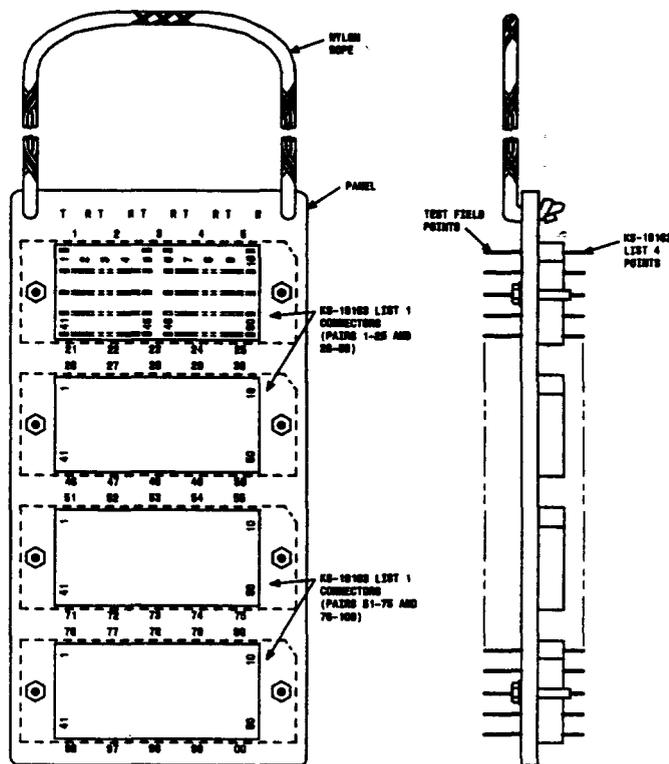

Figure 2—Pick Test Panel—Used With T and U Test Connectors and 299A and 299B Test Adapters—For 307-, 309-, 310-, 310M-, or 311-Type Connectors
2.03 The pick test panel assembly (Figure 2) is furnished with the T and U test connectors and the 299A and 299B test adapters to access the 100-pair field of the test connectors and adapters for single or pair-at-a-time testing. The four KS-19162, L4 connectors on the test connectors or adapters are attached to the pick test panel, tone is applied, and a B test point tester is used to identify individual pairs. The T test connector is used with the 310-, 310M-, and 311-type connectors. The U test connector is used with the 309-type connector, and the 299A and 299B test adapters are used with the 307-type connector. The pick test panel assembly is packed in the test connector and adapter carrying cases.